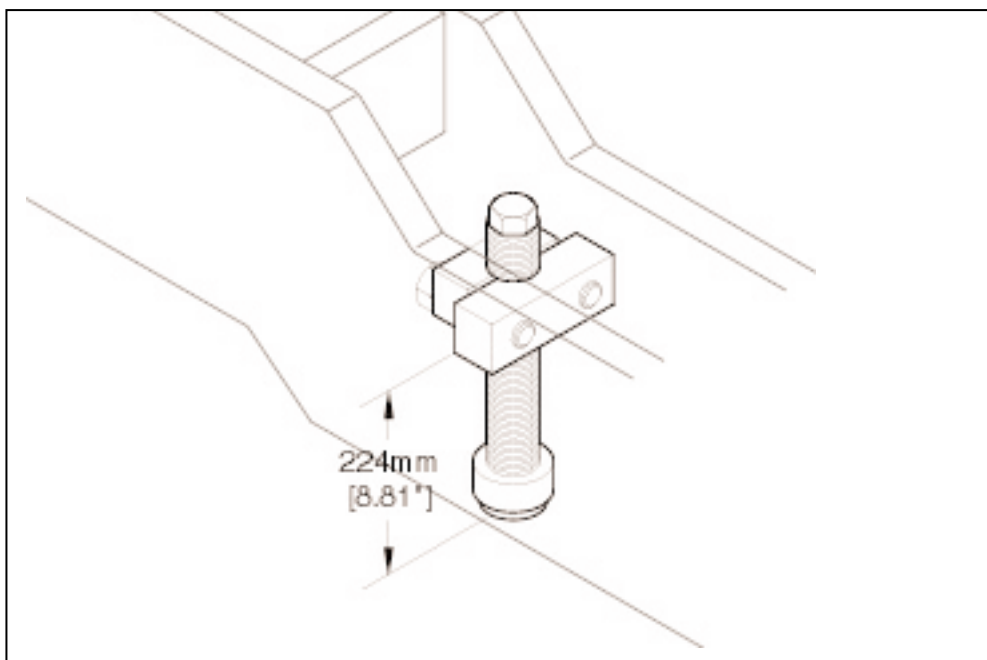

Figure 4.3 ADJUSTING STRIPPER HEAD SHOCK ABSORBERS
4.1.4 Adjust the stripper head shock absorbers (part #242269) to a dimension of 8 13/16" [224mm] from the bottom of the clamp blocks to the bottom of the rubber pads (see figure 4.3).